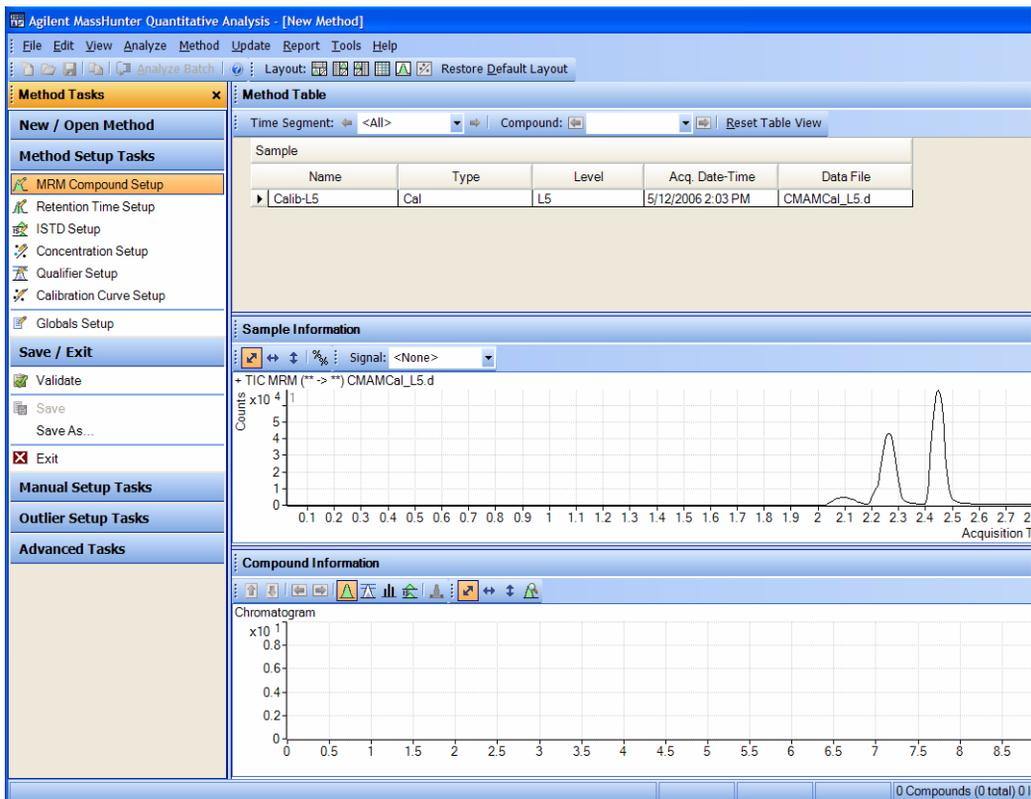

Figure 3 Method Edit mode
The Method Edit Tasks appear in the column to the left of the View, as shown in Figure 3.
- Note that Figure 3 shows the default layout for method editing.